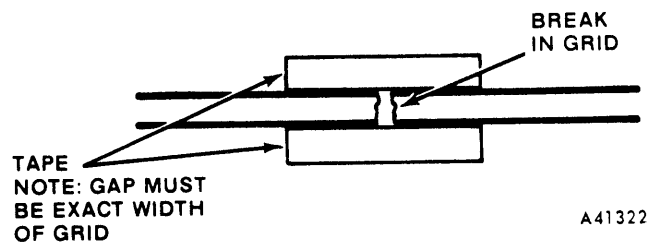

Fig. 3-99 Tailgate Window Defogger Grid Repair
(1) Using suitable marking pencil, mark location of broken or open grid on exterior surface of glass.
(2) Using fine steel wool, lightly rub area to be repaired (inside of tailgate window). Clean area with isopropyl alcohol (rubbing alcohol).
(3) Attach two strips of cellulose tape (inside of tailgate window) above and below break in grid as shown in figure 3-99.
(4) Mix repair coating until uniform in consistency, with silver particles mixed throughout fluid. Apply coating to break in grid with small brush furnished in kit. Apply heavy coat of mixture, extending approximately 1/4 inch on either side of break.
(5) Start engine and press defogger switch. Run engine for one minute. Turn ignition switch OFF.
(6) Apply second heavy coat of mixture to break in grid, extending about 1/4 inch on either side of break.
(7) Start engine and press defogger switch. Run engine until defogger completes cycle (pilot light goes off). Turn ignition switch OFF.
(8) Remove cellulose tape from inside of tailgate window.
(9) Check repaired area for continuity. **Do not touch repaired area.**